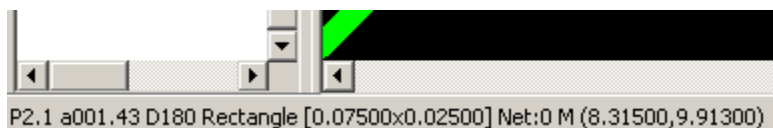

Figure 9: The Status Bar
- View the Status bar along the bottom edge of the application (see Figure 9) to find out information about that entity including Layer, Aperture size and Shape, Position, Part Number, Reference Designator and other useful information. Note, the information varies with the type of entity being investigated (Pad v Trace v Drill v Part)